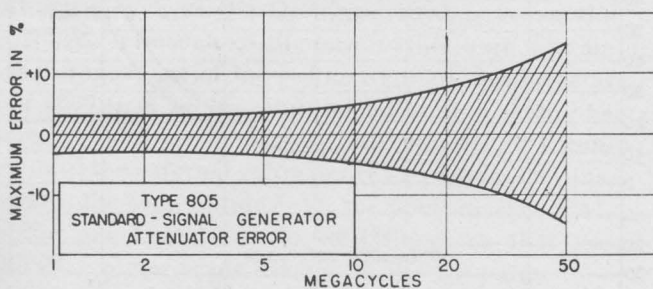

Figure 7. Maximum attenuator error as a function of frequency.
3.13 Attenuator Error: A maximum variation of $\pm 1\%$ occurs in the adjustment of individual resistors in the attenuator. Variations in the reactance of these resistors, however, is more important and accounts for most of the frequency error, which rises to $\pm 15\%$ at 50 Mc. Figure 7 shows this maximum error as a function of frequency.